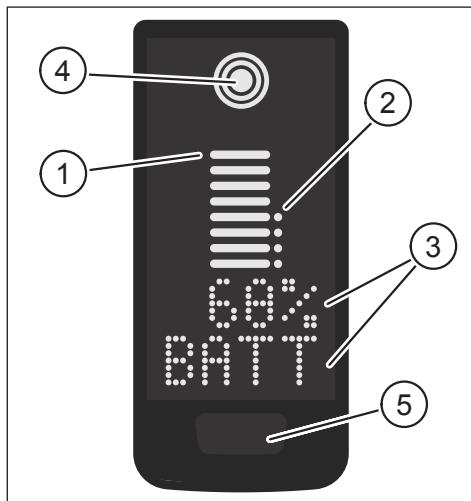
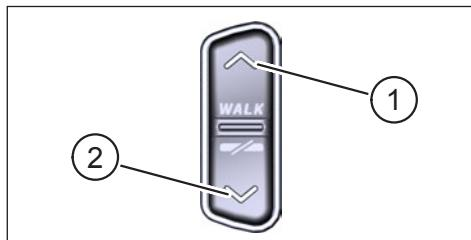

Fig. 1: Operation and indicator components on Display
Fig. 2: Operation on the Remote
| Pos. in Fig. 1 | Description |
| Pos. in Fig. 2 | Description |
- ▶ Press and hold the button on the Display (pos. 5 in Fig. 1) and the DOWN button on the Remote (pos. 2 in Fig. 2) for at least 5 seconds.
- With a **double click** press on the button on the Display (pos. 5 in Fig. 1) you switch to the next screen view.